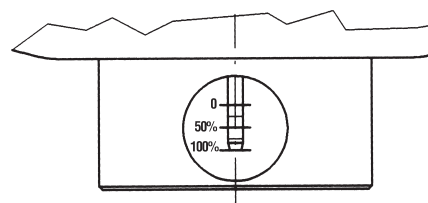

Fig. 27
- 12) Ascertain that the PM/819 monitor positions itself completely open, controlling the position of the stroke indicator through the port (fig. 27).
- 14) Ascertain that the REFLUX 819 monitor positions itself completely open, controlling the position of the stroke indicator through the port (fig. 27).